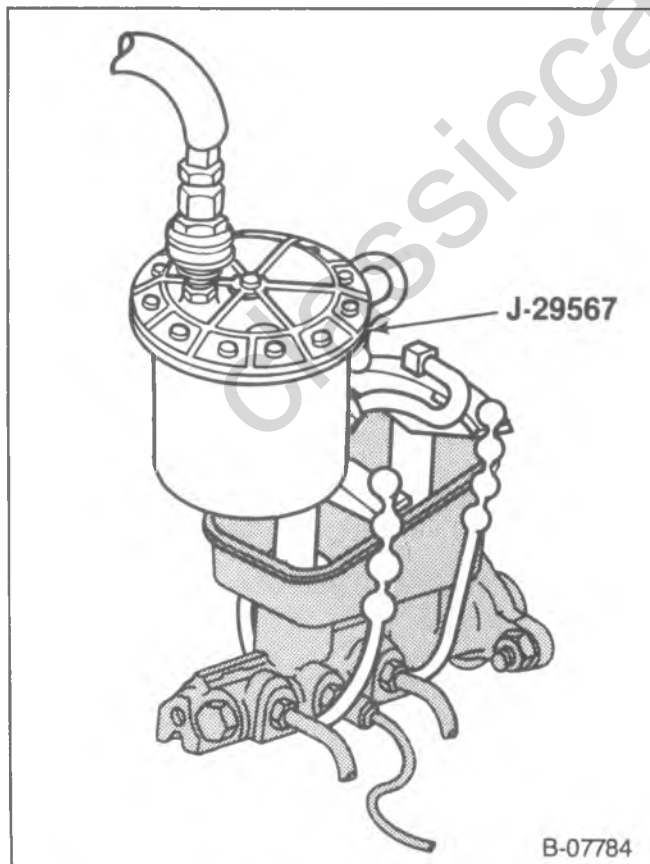

Figure 2—Plastic Reservoir Bleeder Adapter
- Install the correct bleeder adapter (figures 2 and 3).